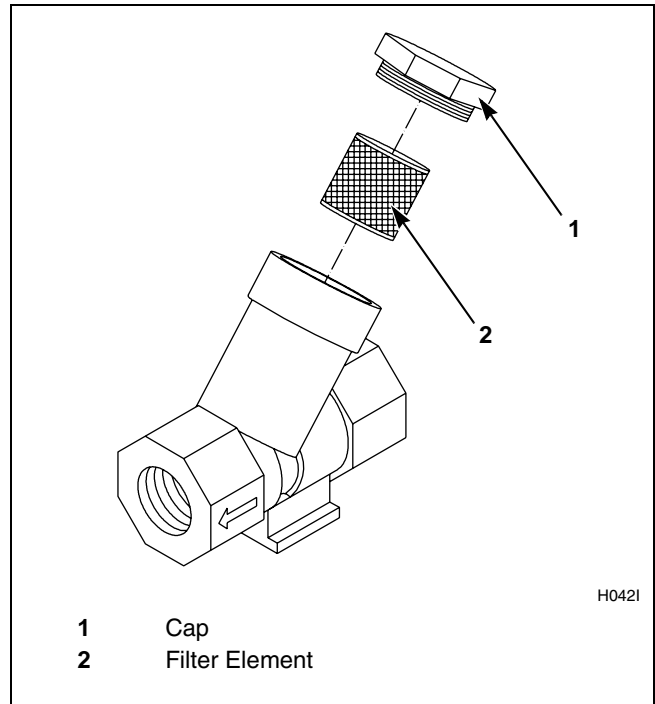

Figure 12
5. Clean supplied steam filter, where applicable. Refer to *Figure 12*.